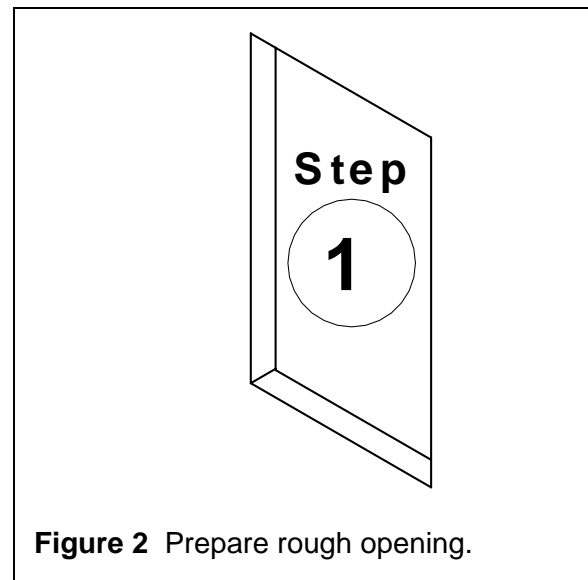

Figure 2 Prepare rough opening.
Step 1. Prepare opening and surrounding substrate. Keep substrate surface clean, dry, and smooth around the perimeter (see Figure 2).